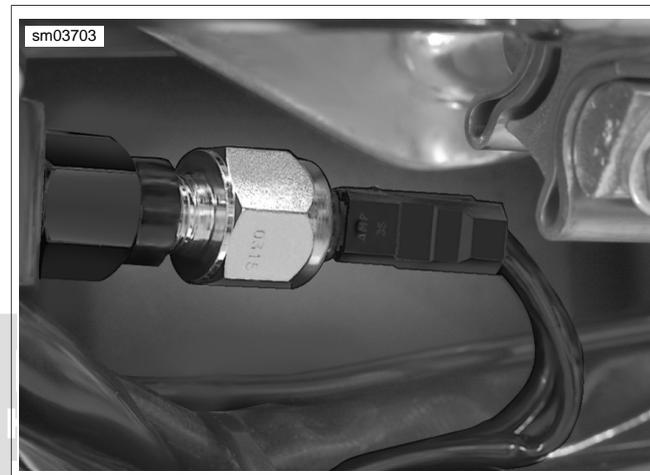

Figure 8-84. Rear Stoplight Switch
1. Using wrench on flats, remove rear stoplight switch from rear brake line. See Figure 8-84.
2. Install rear stoplight switch into rear brake line. See Figure 8-84.